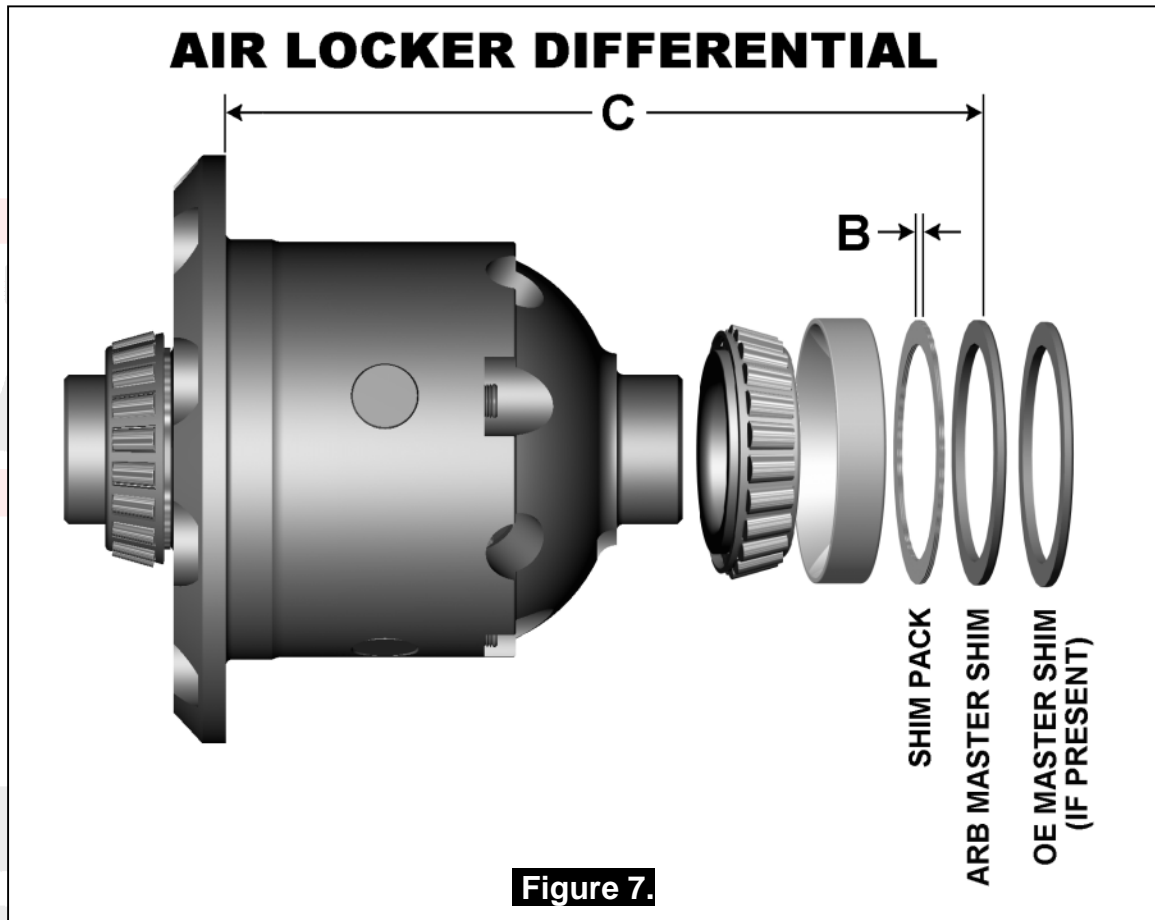

Figure 7.
- Assemble the new bearing cup and ARB master shim (supplied with your *Air Locker* kit) onto the right-hand side of the *Air Locker* (as shown in Fig. 7.) and measure the total distance 'C'.